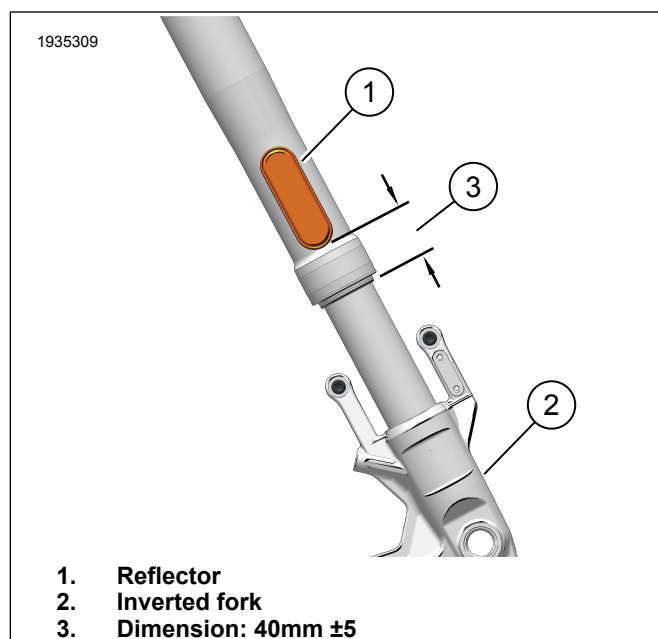

Figure 6. Reflector Replacement, Front Fork
3. See Figure 6. Peel liner from tape. Install reflector (1) in position (3) on fork as shown. Press firmly into place.